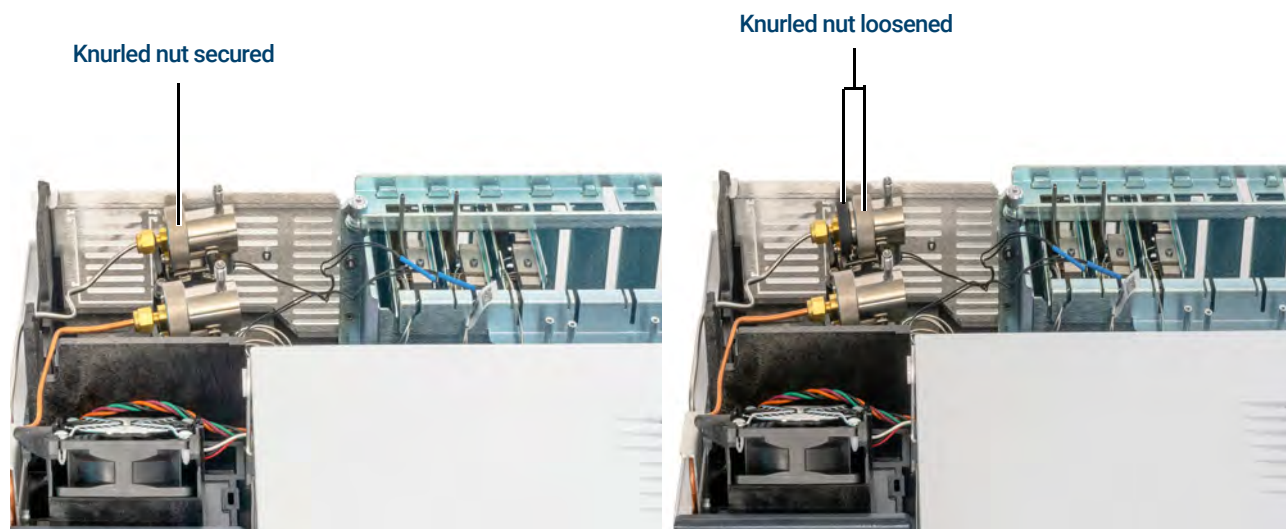

Figure 34. Loosen knurled nut
- 4 Completely loosen the knurled nut that secures the split vent trap in place as shown in **Figure 34**.